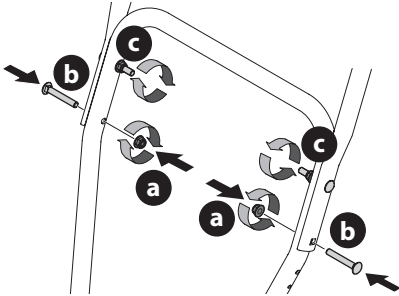

Figure 5
- Finish securing the handle by tightening the top two nuts (c) loosened in Step 2. See Figure 5 or Figure 6 for models with side supports.